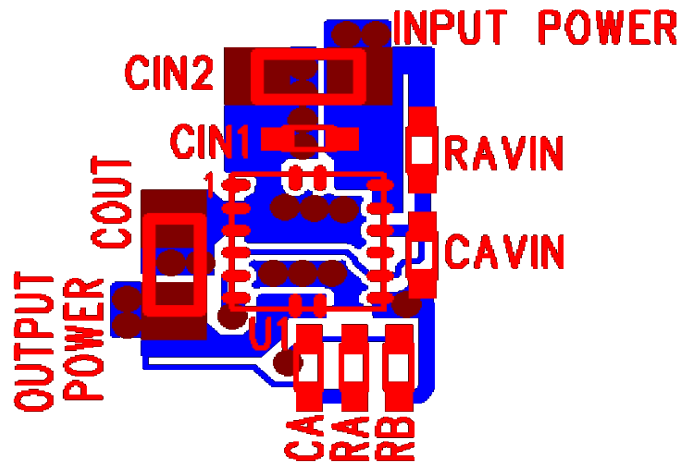

Figure 7. Top PCB Layer Critical Components and Copper for Minimum Footprint (Top View)
Figure 7 shows critical components and layer 1 traces of a recommended minimum footprint EP53F8QI layout with ENABLE tied to  $V_{IN}$ . Alternate ENABLE configurations, and other small signal pins need to be connected and routed according to specific customer application. Please see the Gerber files on the Intel website [www.Intel.com/enpirion](http://www.Intel.com/enpirion) for exact dimensions and other layers. Please refer to Figure 7 while reading the layout recommendations in this section.
**Recommendation 2:** Input and output grounds are separated until they connect at the PGND pins. The separation shown on Figure 7 between the input and output GND circuits helps minimize noise coupling between the converter input and output switching loops.
**Recommendation 4:** Multiple small vias should be used to connect the ground traces under the device to the system ground plane on another layer for heat dissipation. The drill diameter of the vias should be 0.33mm, and the vias must have at least 1 oz. copper plating on the inside wall, making the finished hole size around 0.20-0.26mm. Do not use thermal reliefs or spokes to connect the vias to the ground plane. It is preferred to put these vias under the capacitors along the edge of the GND copper closest to the +V copper. Please see Figure 7. These vias connect the input/output filter capacitors to the GND plane and help reduce parasitic inductances in the input and output current loops. If the vias cannot be placed under  $C_{IN}$  and  $C_{OUT}$ , then put them just outside the capacitors along the GND. Do not use thermal reliefs or spokes to connect these vias to the ground plane.
**Recommendation 5:** AVIN is the power supply for the internal small-signal control circuits. It should be connected to the input voltage at a quiet point. In Figure 7 this connection is made with RAVIN at the input capacitor close to the  $V_{IN}$  connection.